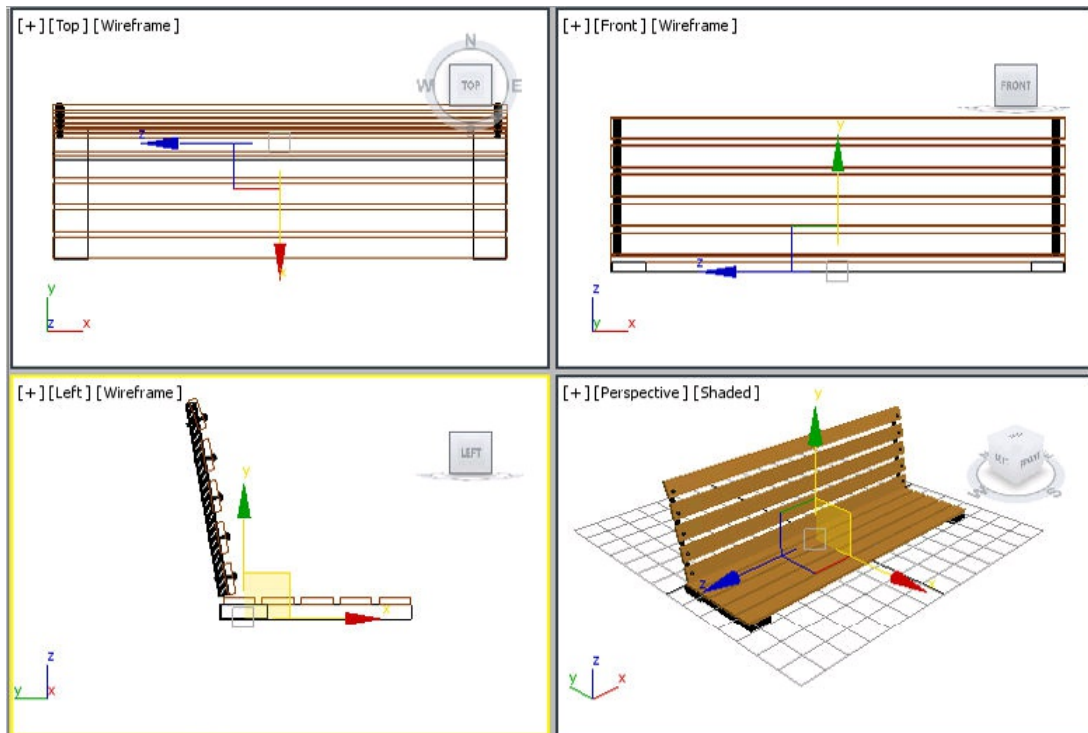

Figure 2-88 Alignment of leg support003 with horizontal seat support in the viewports
10. Choose the **Select and Move** tool and align *leg support003* with *horizontal seat support* in the viewports, as shown in Figure 2-88.